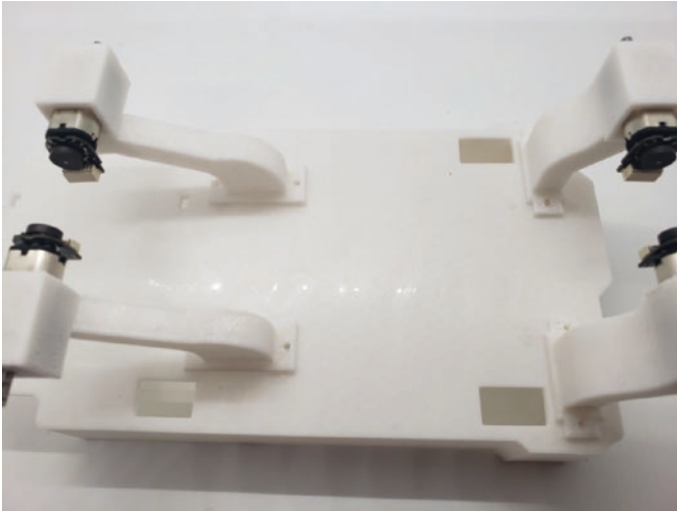

Figure 8-43. *Attach the wheelbases to the NatBot chassis*
4. Attach the wheelbase prints to the NatBot chassis. They should be a bit of a tight fit, but if you are having trouble fitting them in, you can sand down the top a little to help them fit better. See Figure 8-43.